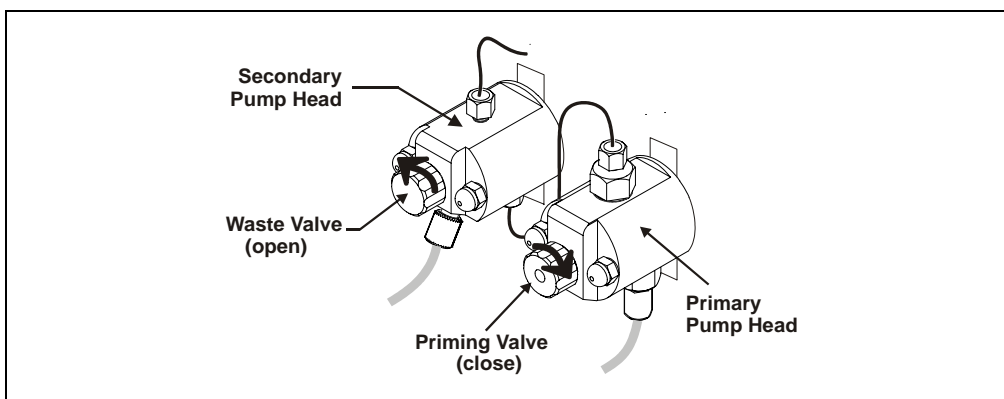

Figure 3-11. Priming the Pump
1. Verify that the priming valve on the primary pump head (see Figure 3-11) is closed (turned all the way clockwise).